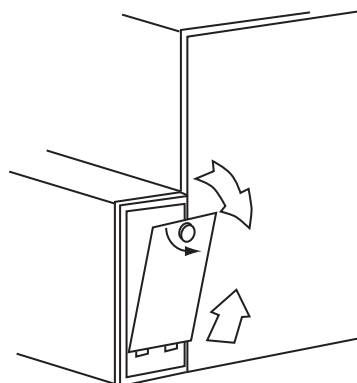

Fig. 20 - Removal of Filter Cabinet Door from Side Blower Cabinet
- a. Remove filter cabinet door. (See Fig. 20 and 21.)